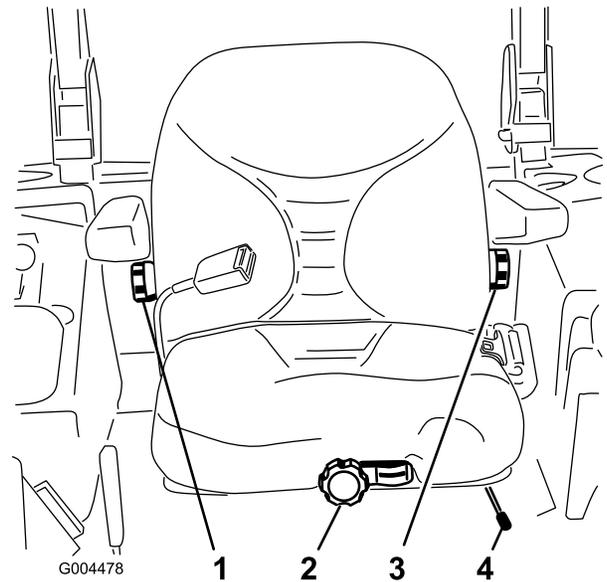

Figure 8
1. To adjust the seat, move the lever sideways to unlock the seat (Figure 8).
To adjust the back of the seat, turn the knob, located under the right-side armrest, in either direction to provide the best comfort (Figure 8).
To adjust the back of the seat, turn the knob, under the left-side armrest, in either direction to provide the best comfort (Figure 8).